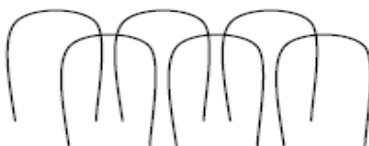

Fig.2.
- (3) Bend the wire like the figure. (Fig.2)